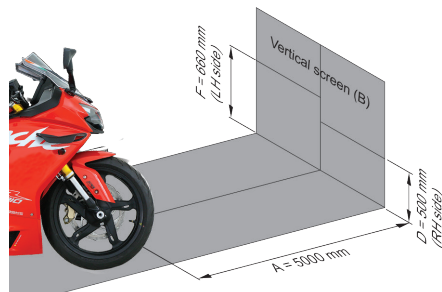

Fig. 43
- Place the motorcycle upright in a uniform flat surface while ensuring the head lamp center (A) is 5 meter away from a vertical wall or screen (B). (ref. Fig. 43)
- Adjust the RH side projector lamp adjuster (C) clockwise (Downward) or in anti-clockwise (Upward) and match the low beam cut-off line to the marking line (D) (500 mm) on a vertical wall or screen. (ref. Fig. 43 & 44)